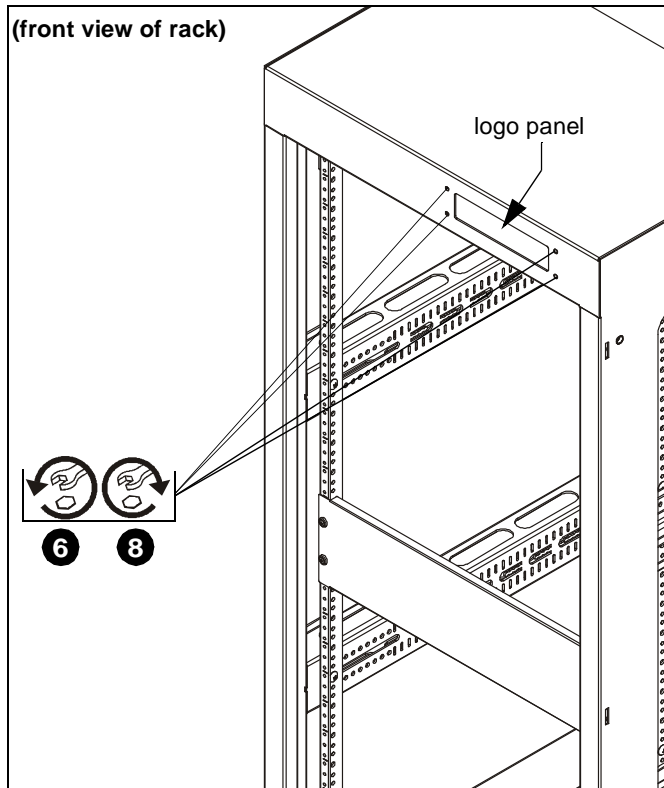

Figure 7
6. Change optional logo panel by removing and saving 4 nuts from studs at inside top of front. (See Figure 7)
7. Remove blank panel and replace with optional personalized logo panel (not included). (See Figure 7)